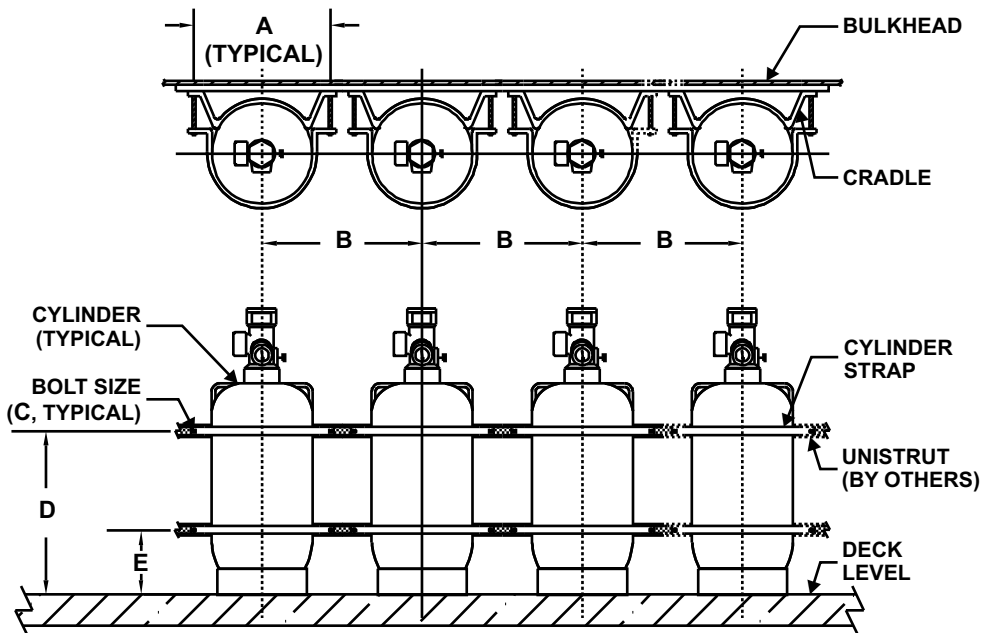

Figure 4-19. Typical Cylinder Installation, Vertical Mounting
1. Position the FM-200 cylinder in designated position, and secure in place with the cylinder mounting straps and associated hardware. For cylinders of 125 lb. capacity and above, a cradle is used to support between the cylinder and the unistrut or bulkhead. See Figure 4-19 and Table 4-11 and Table 4-12 for the relevant installation dimensions. Ensure the valve outlet is correctly orientated for connection to the system pipework.